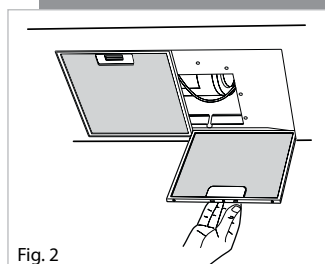

Fig. 2
1. Pull open the handle on the grease filter as shown in fig 2. It will release at the handle side.